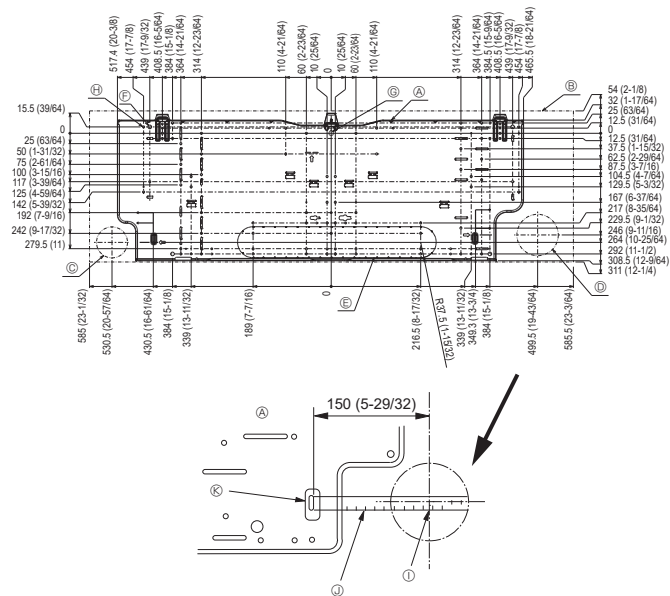

Fig. 3-2
■ PKFY-WL-NKMU-E (Fig. 3-2)
- A Mount board ①